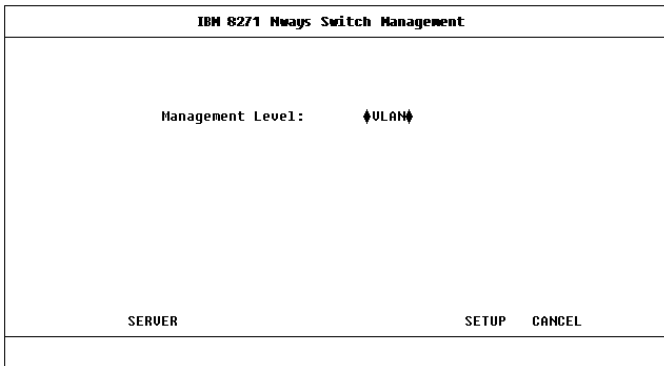

Figure 8-5 VLAN Selected Screen
- 2 For the *Management Level* field, select the *VLAN* option and press the [TAB] key. The screen shown in Figure 8-5 on page 8-6 is displayed.